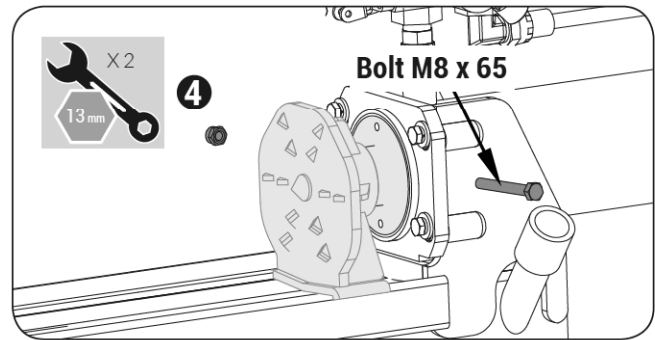

Figure 7
4. Secure the log push plate using M8x65 bolt and nut. (See **Figure 7**)